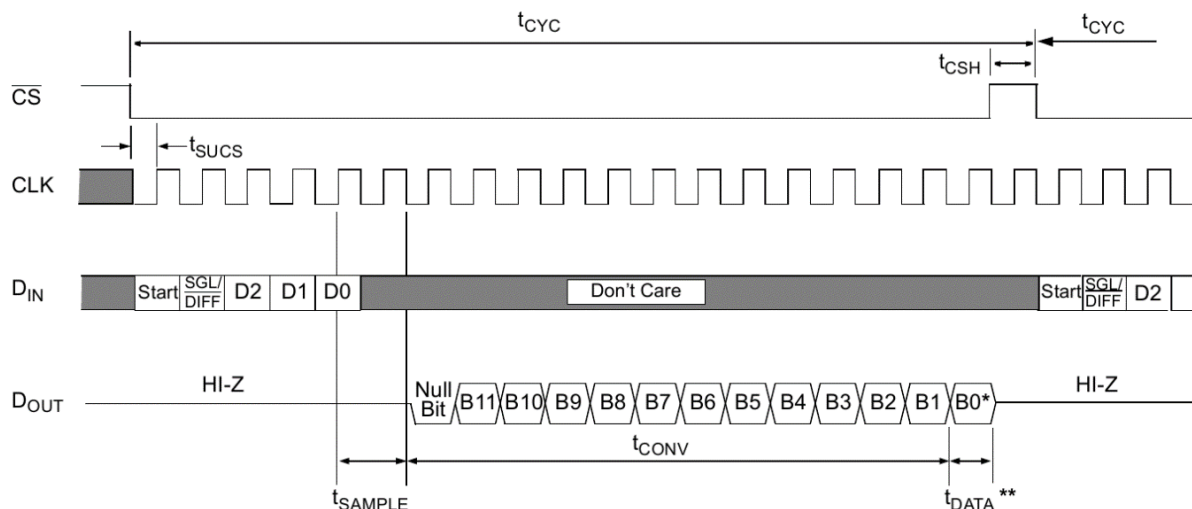

FIGURE 4. MCP3204 SPI COMMUNICATION PROTOCOL
The communication interface available on the MCP3204 is the *Serial Peripheral Interface (SPI)* bus. Figure 4 shows the details of the communication protocol between the ADC (SPI *slave*) and the FPGA (SPI *master*)¹.
- i. **HINT 1:** Using ModelSim can truly be beneficial when implementing your design. You can use the stimulus generation file "tb_mcp3204_spi.vhd" we provide to generate instructions for the controller. Note that the file is not a testbench, but rather just generates instructions for the *SPI controller*, so you'll have to compare the output of your design against Figure 4 to see if it is functioning correctly.